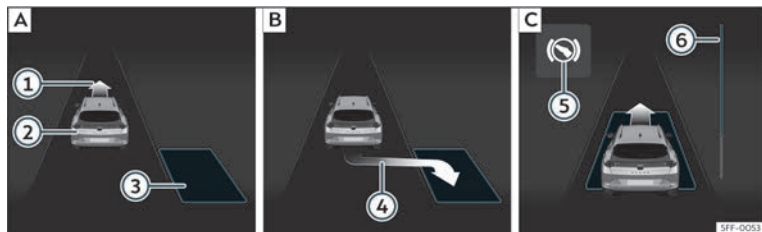
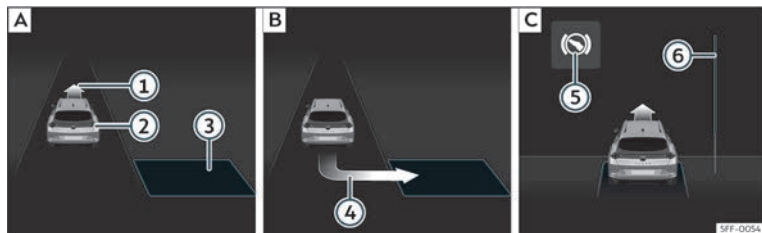

Fig. 191 On the instrument panel display: parallel parking. **A** Finding a parking space. **B** Parking position. **C** Manoeuvring.
Fig. 192 On the instrument panel display: angle parking. **A** Finding a parking space. **B** Parking position. **C** Manoeuvring.
- Look at the display on the instrument panel to see if the space has been detected as “appropriate” and if the correct position for parking has been reached»» **Fig. 191 B** or»» **Fig. 192 B**. The space is considered
- Reverse until the continuous ParkPilot signal sounds; **OR:** reverse until the indication to move forward appears on the instrument panel display >>> Fig. 191 [C] or >>> Fig. 192 [C]; **OR:** reverse until the **Park Assist finished** message appears on the instrument panel display. The progress bar [6] indicates the distance to cover >>> page 278.
- Move forward until the continuous ParkPilot signal sounds; **OR:** move forward until the reverse indication appears on the instrument panel display. The Park Assist system steers the vehicle forward and back until it centres it in the space >>> Fig. 191 [C] or >>> Fig. 192 [C].
The progress bar >>> Fig. 191 [6] and >>> Fig. 192 [6] on the screen of the instrument panel displays the relative distance to be covered. The greater the distance, the fuller the progress bar. When driving forward, the content of the progress bar decreases upwards, and when reversing, it decreases downwards.